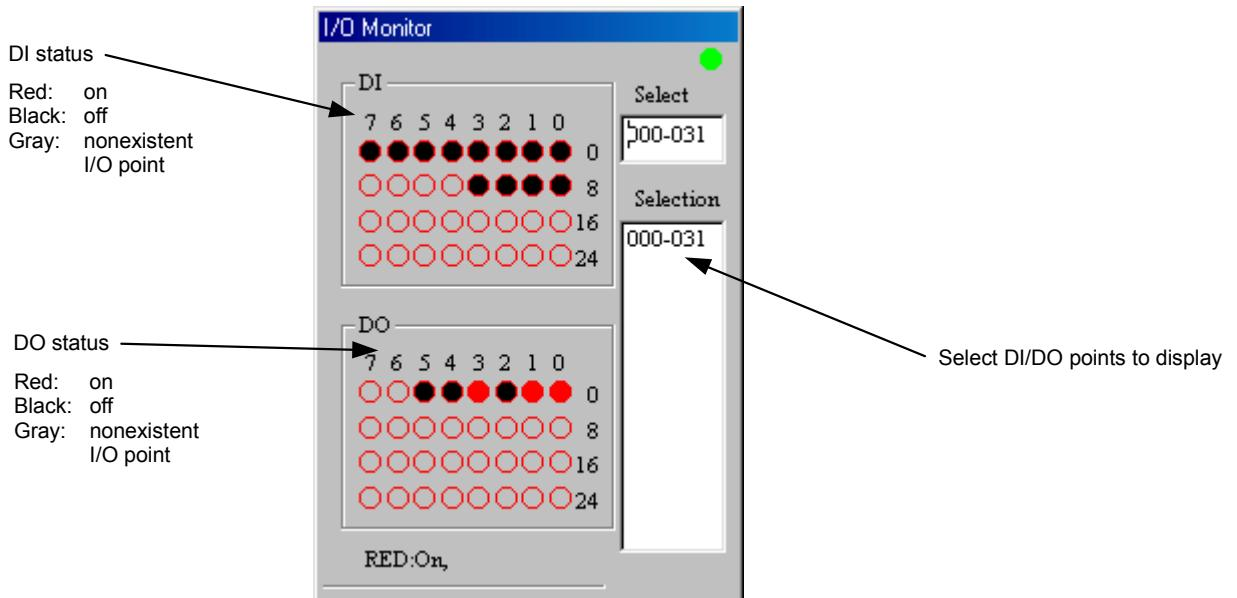

Figure 8.11 “I/O Monitor” dialog box
(2) I/O monitor
In the “Terminal” menu, click “*I/O Monitor (I)*” under “Monitor” to display the “I/O Monitor” dialog box (see Figure 8.11).